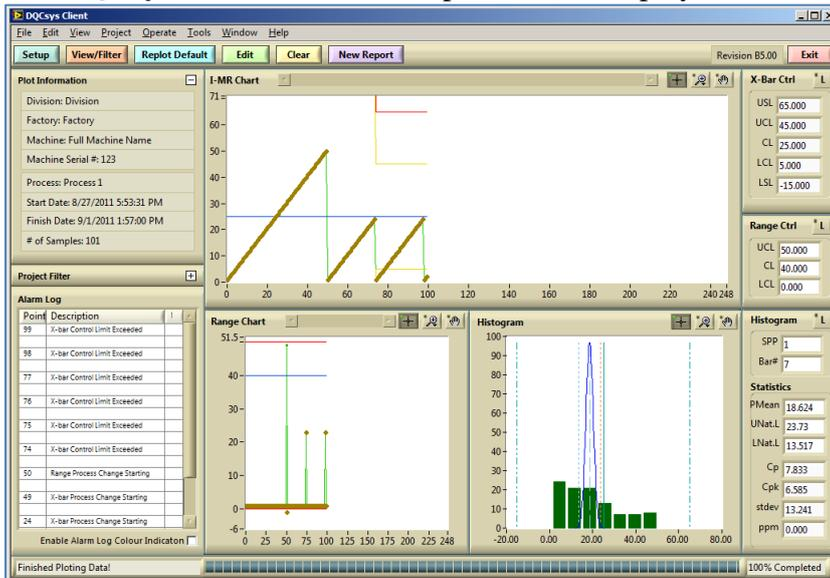

Figure 3-2: The Plotted Data on **DQCsys Client** Window
2. The **DQCsys Client** window will process and display the searched data. (Figure 3-2)
To hide or show the **Project Filter** section, click the surrounding area of the text “Project Filter”. (Figure 3.2- 2)